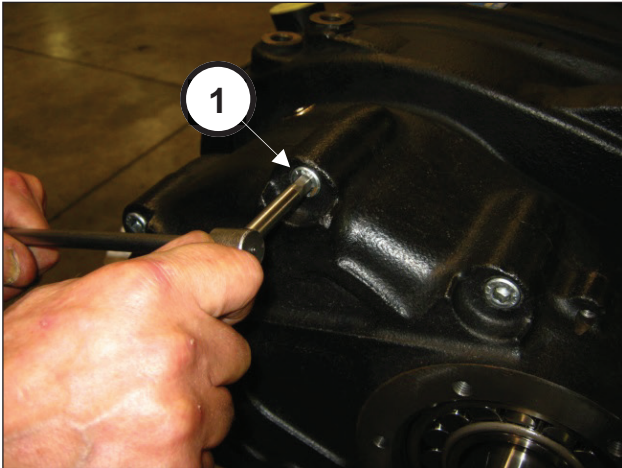

Fig. 5
Unscrew the reduction gear cover fixing screws (pos. ①, Fig. 5).